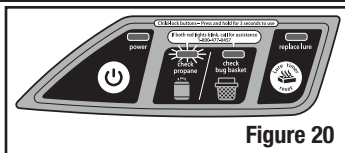

Figure 20
2. Refill propane tank every 21 days or as needed. The CHECK PROPANE (🔥) indicator light will light RED when propane needs to be refilled (Figure 20). Be sure POWER (⏻) is off and unit is unplugged before changing propane tanks.